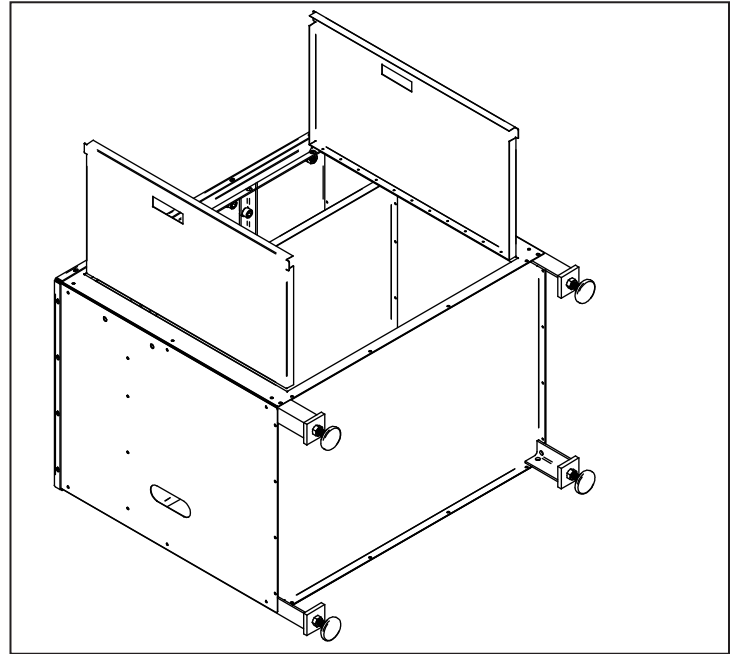

Figure 10
17. Screw one M12 Nut onto each of the four Leveling Feet; screw Leveling Feet into four Legs as shown in **Figure 10**.